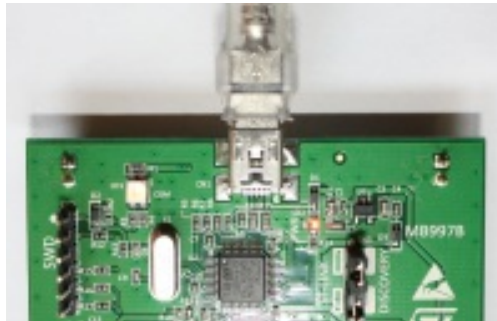

Figure 11: Mini-USB connection
1. USB connection: Connect the mini-USB jack on the STM32F4DISCOVERY with a cable to your computer (see fig. 11). If you do this the first time, the driver will be installed, which can take a while. While connected to the USB port, the CPU gets the necessary power from your computer. It doesn't matter whether the system is powered by external 5V or not while flashing. There is no need to remove the Discovery from the red PCB, as there is a good chance to damage it mechanically or electrically during this procedure. When the connection is established successfully, the big ST-Link LED should stay red. If it is blinking red, then there is a connection or driver problem.